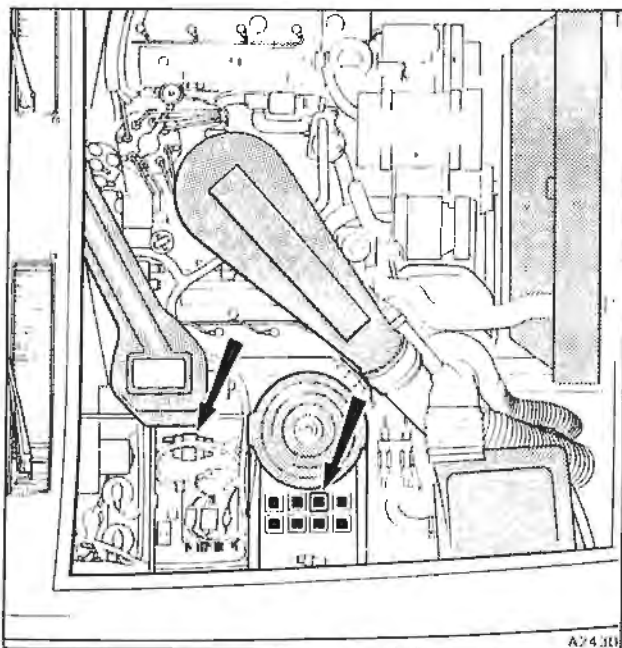

Fig. B4-50 ECU and relay compartments
4. Disconnect the oxygen sensor (if fitted) inside the ECU compartment (see fig. B4-50).
5. Withdraw the fuel pumps relay located inside the ECU compartment (see fig. B4-50).